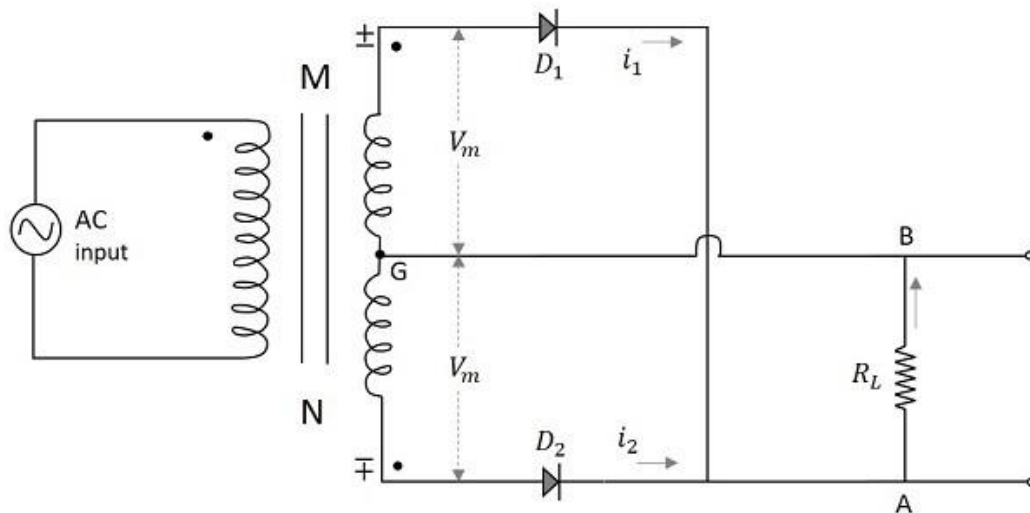

Figure 13.4: Circuit diagram of Center Tapped Full-wave Rectifier
13.4 Draw electronic circuit diagram of Center Tapped Full-Wave Rectifier as shown in Figure 13.4